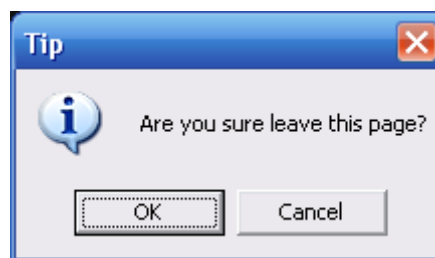

Figure 7-21
4) When you switch from Monitor to Search or Configuration, system pops a dialogue box asking you leave current interface or not. See Figure 7-21. Click the OK button, system will close current monitor window. For example, you click the Config button when you are monitoring, system pos up a following dialogue. Click the OK button, system closes current monitor interface and open the configuration interface. The monitor interface appears automatically after you close configuration interface. When you switch from Search to the Configuration interface, system also pops up the same dialogue box for your confirmation. Click OK button, you can see system close playback interface and open the configuration interface. Please note, system will not open the playback interface again after you close the configuration interface.